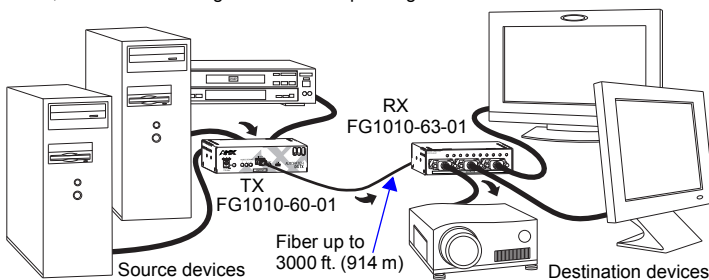

FIG. 2 Typical system setup
DG (Digital Generation) DVI MTP® Fiber Transmitter (TX) and Receiver (RX) Modules work together (FIG. 2) or in conjunction with MTP Fiber boards on an AMX AutoPatch Distribution Matrix. This guide contains complete information for standalone use. For use with a distribution matrix, see the distribution matrix's instruction manual on the *AMX AutoPatch CD* or at www.amx.com. A table containing supported EDID resolutions is included on the reverse.